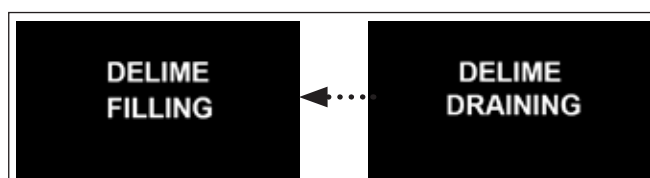

Fig. 60 - Second drain and fill
15. Machine drains and fills for a second time, Fig. 60.